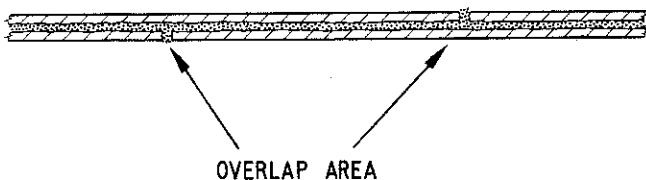

Fig. 17
Where both skins are fractured a way must be found to stagger the joint lines as shown in Fig. 17. These joints should be staggered a minimum of 4"-6" if possible, and it will consequently be necessary to obtain or make up at least one replacement section to provide the overlap as indicated in the sketch.
- (c) The proposed cut lines on doubled-skinned panels, overlap by 6" where possible, to enable the repair joint to be made as shown in Fig. 17.